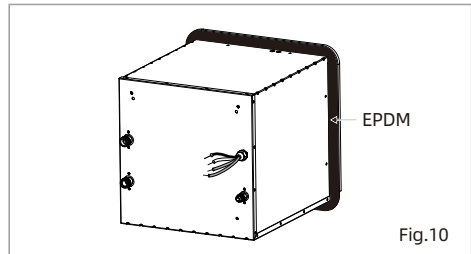

Fig.10
- ① Hot water connector ③ Gas connector
② Cold water connector
3. Attach the waterproof sealing strip (EPDM) provided with the accessory package, around the entire backside flange area and holes. (Fig.10)
2. The water heater flange cover is pasted with waterproof sealing strip EPDM. (Fig.10)